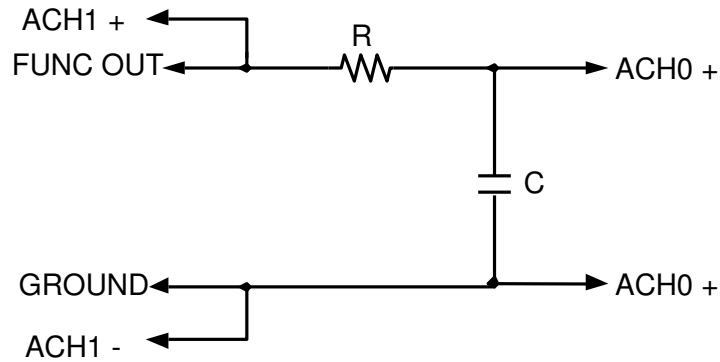

Fig. 9: RC Filter connectivity for AC Characterization.
2. Connect the RC filter circuit on the proto board as shown in figure 9. The input signal for the filter is obtained between 'FUNC OUT' & 'GROUND' pins. The input signal is also connected to Analog Channel-1 (between ACH1+/ACH1-) and the output signal across the capacitor is connected to Analog Channel-0 (ACH0+/ACH0-). Connections on the Analog Channels 0 and 1 are used for oscilloscope SFP as further explained in the below steps.
1. Retain the circuit configuration from the previous section. Note that the circuit should be setup as shown in figure 9.